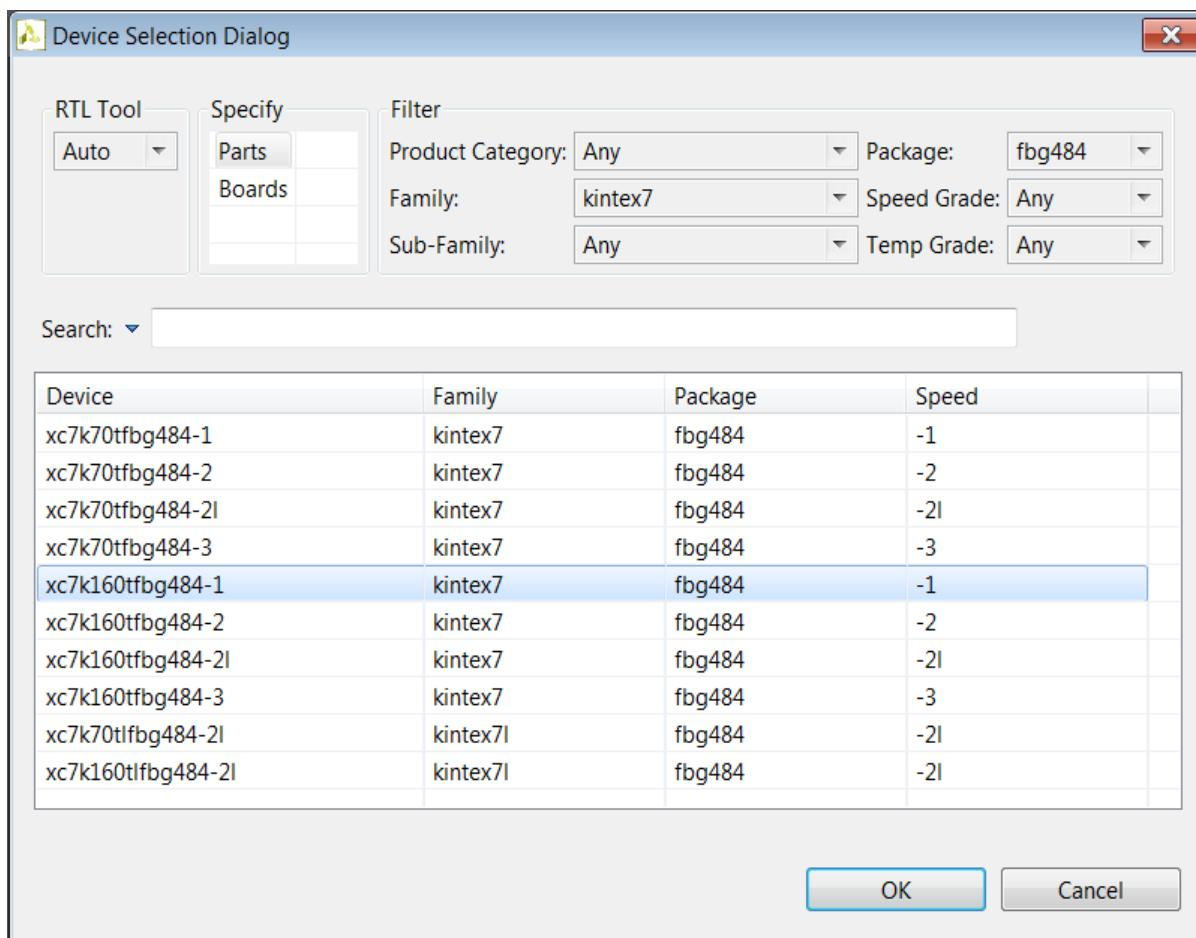

Figure 1-13: Part Selection
- **Part:** Click to select the appropriate technology (Figure 1-13).